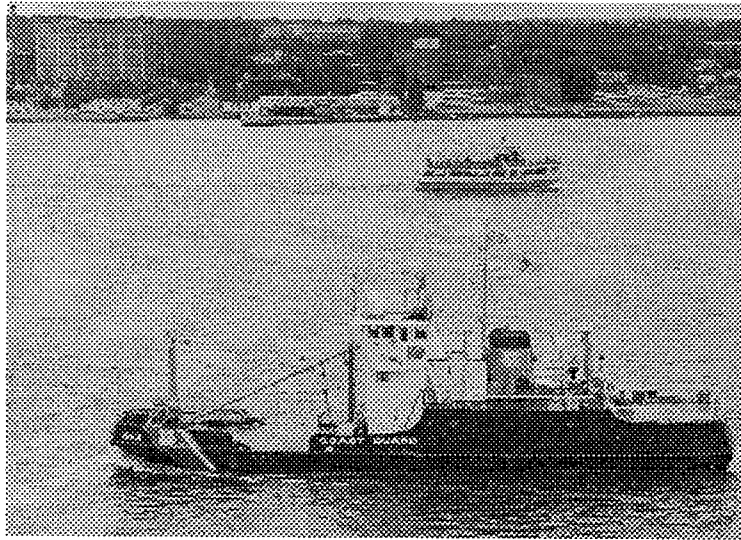

Figure 9-2 WLI
- 1. General. The Eighth Coast Guard District's Aids to Navigation Manual (CCGD8INST M16500.3 series), contains administrative and policy guidance for placement of aids to navigation in the Eighth Coast Guard District. That manual should be consulted for specific guidance on those issues. This section deals with the general seamanship practices of the WLRs (See **Figure 9-2**) on the rivers of the Eighth District.